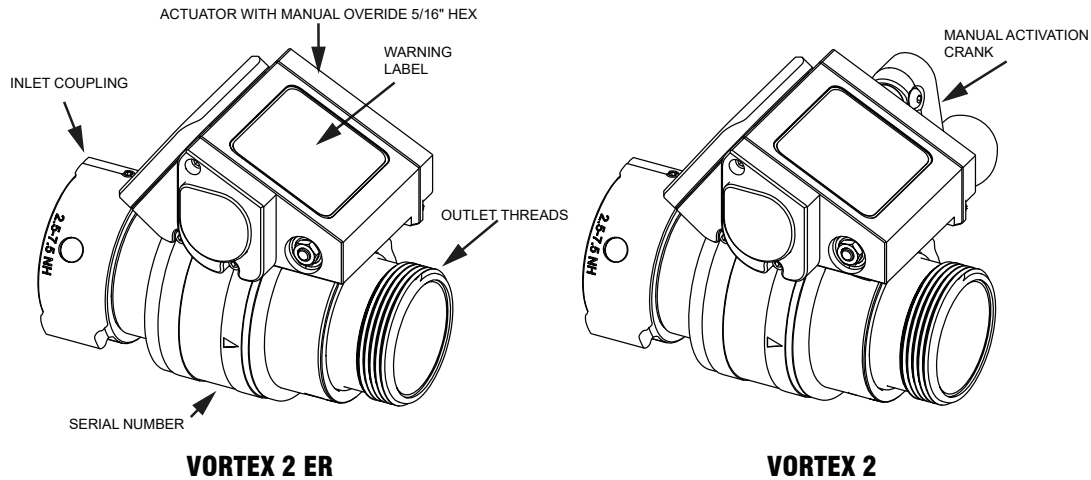

Figure 3.1.1
-  **CAUTION** Maximum flow and pressure is shown in Figure 3.1.1 Operating Envelope. Damage or injury may result if the monitor is operated beyond these limits.